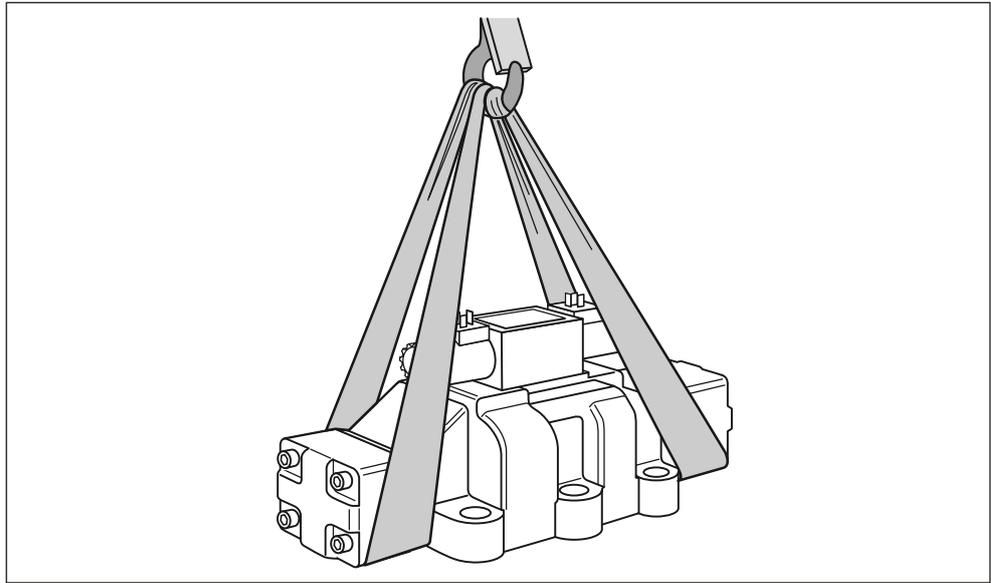

Fig. 1: Position of the lifting strap
- ▶ Position a lifting strap around the hydraulic valve so that it does not run over the attachment parts (e.g. pilot control valve, solenoids), see Fig. 1